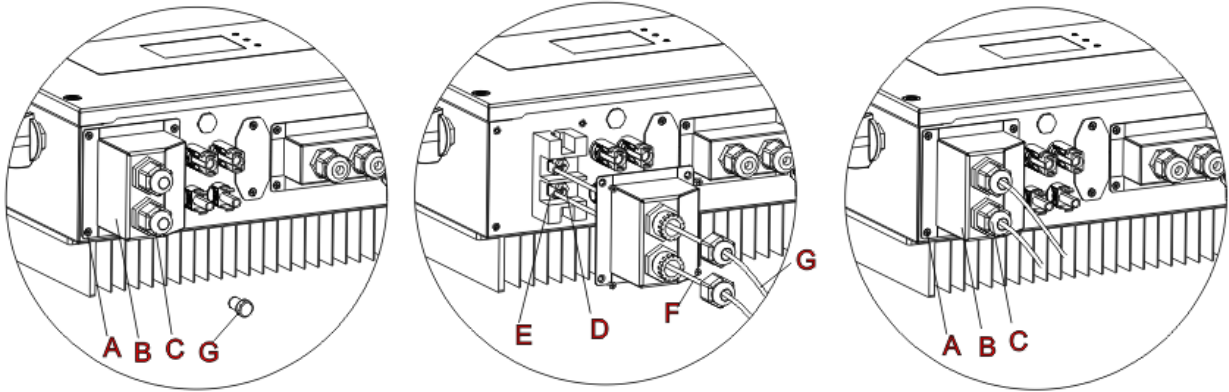

Fig. 6 Battery connection (Measure battery wires polarity/voltage before connection)
**Step 1:** Loosen 4 screws (A) using a screwdriver (Fig. 6);
**Step 2:** Remove the waterproof cover (B), loosen the cable gland (C), and then remove the stopper (G);
**Step 3:** Route the battery wires (F) through the cable gland, then connect battery wires using OT terminal (E);